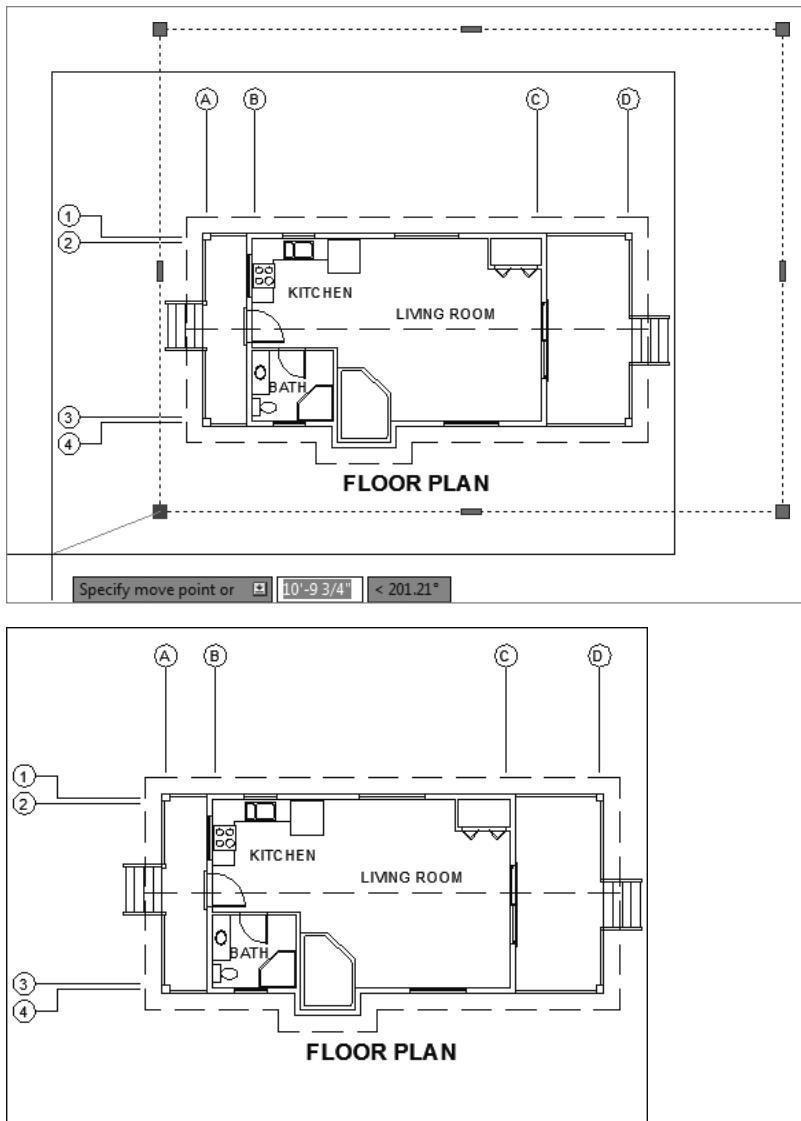

FIGURE 8.40 Moving the rectangle with grips (top) and the results (bottom)
6. Click the lower-left grip. Press the spacebar once to switch from Stretch mode to Move mode. Then move the rectangle over the drawing (see the top of Figure 8.40).
7. When the rectangle is approximately in the position shown in the bottom of Figure 8.40, click. Press Esc to deselect the rectangle. The rectangle is positioned around the drawing and represents the edge of the sheet.